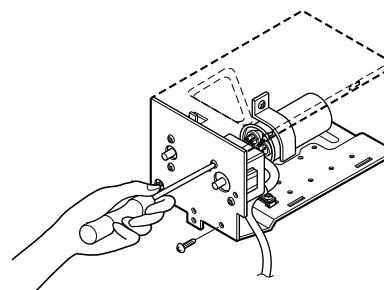

Figure 29
6. Re-install the components by referring to the above removal procedure. (See Figure 29)